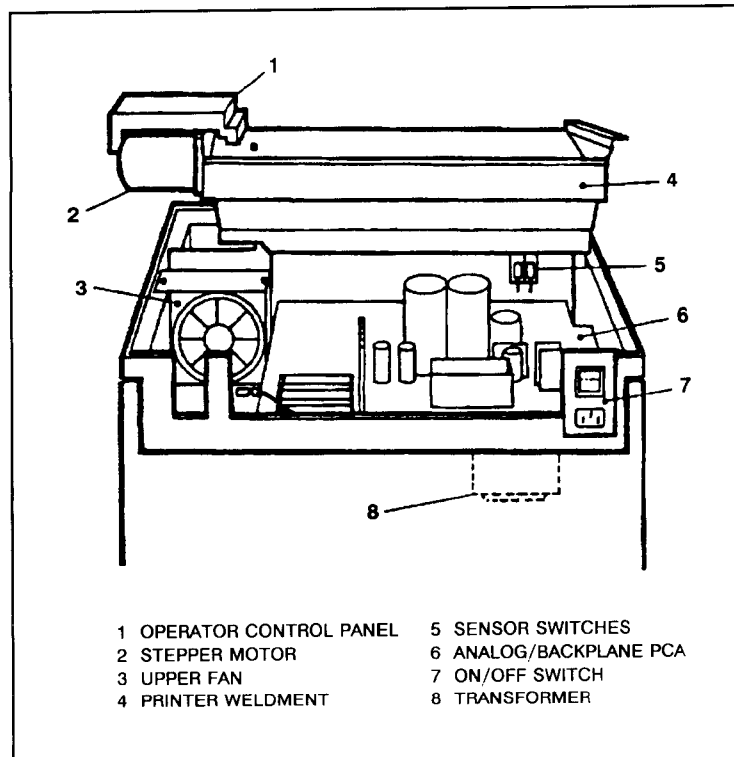

Figure 6-2. HP 2564B/C Printer Assemblies, Rear View
- b. Set the printer's ON/OFF switch to the OFF (0) position and disconnect the input power cable.
- c. Open the printer's top access door. Using a #2 Pozidrive screwdriver, loosen the two captive screws recessed below the upper front edge of the printer (see Figure 6-2, item 1). These screws are located under the top flap of the user menu.